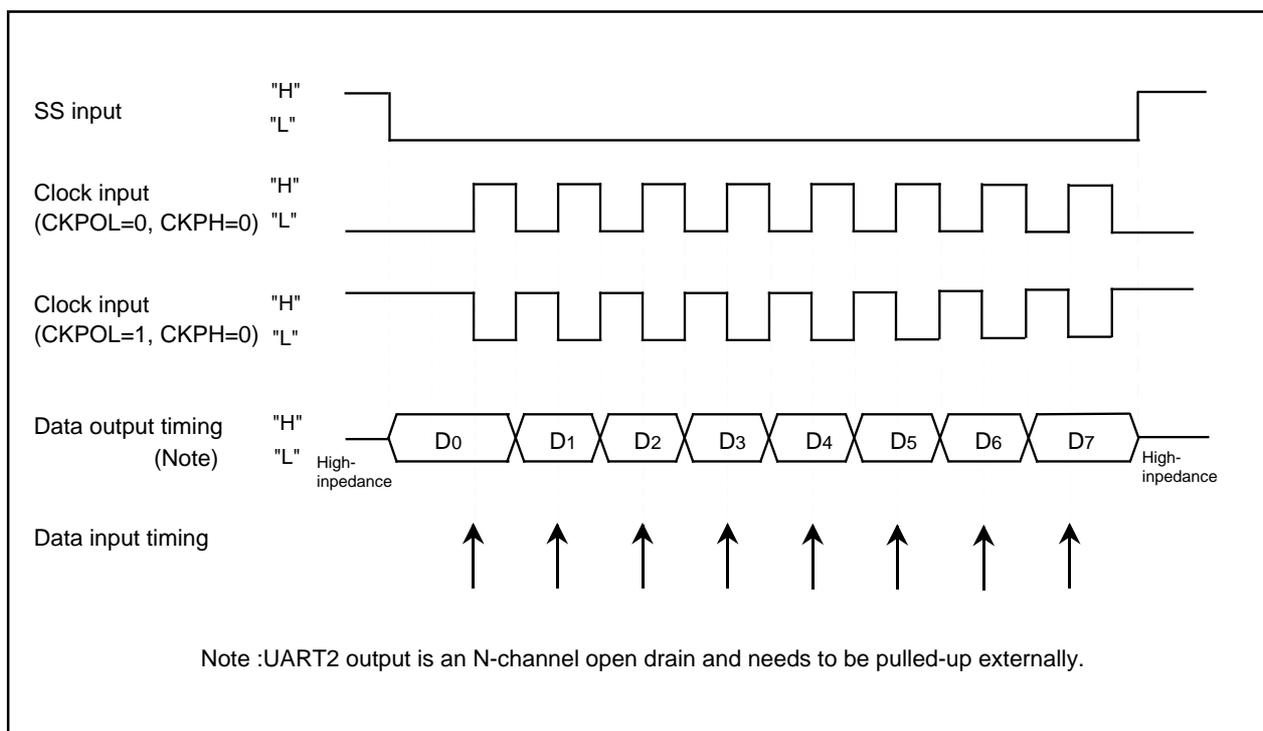

Figure 1.21.9. The transmission and reception timing (CKPH=1) in slave mode (external clock)
- With "1" for CKPH bit, when an  $\overline{SSi}$  input pin is H level, output data is high impedance. When an  $\overline{SSi}$  input pin is L level, the first data is output. After that, serial transmission is synchronized with the clock. Figure 1.21.9 shows the thing.